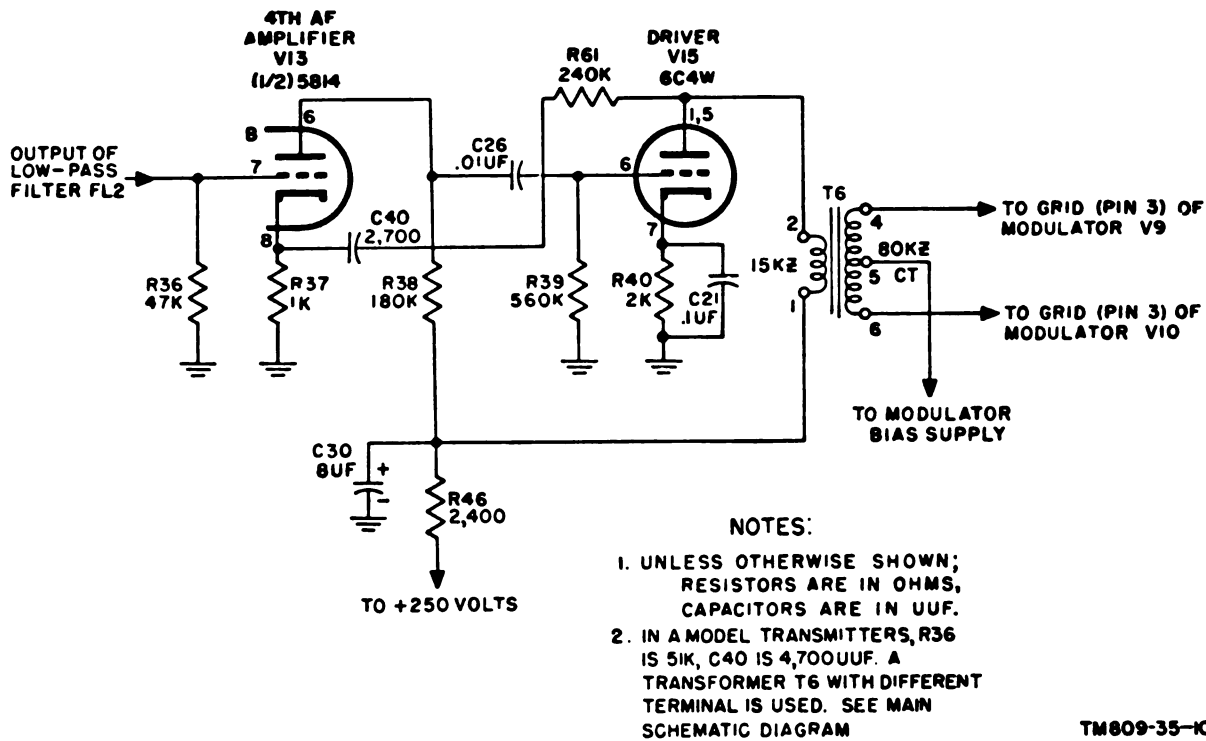

Figure 14. Fourth AF amplifier and AF driver stages.
11. Fourth AF Amplifier and AF Driver Stages (fig. 14)